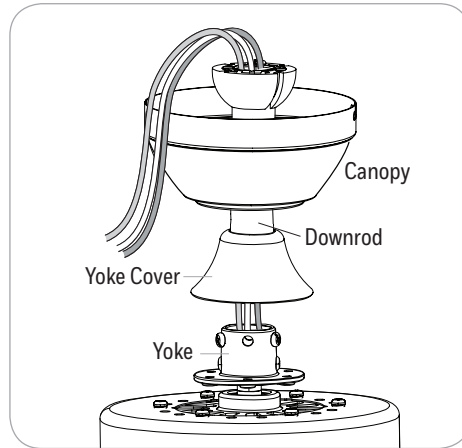

Figure 2.5
5. Feed the fan wires through the yoke cover, canopy and downrod (Figure 2.5).